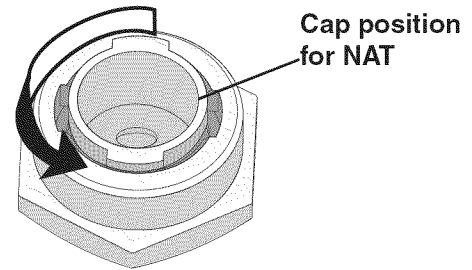

Figure 8
2. Rotate the plug 90° degrees in either direction to align the tabs on the plug with the notches in the cap (Figure 8).